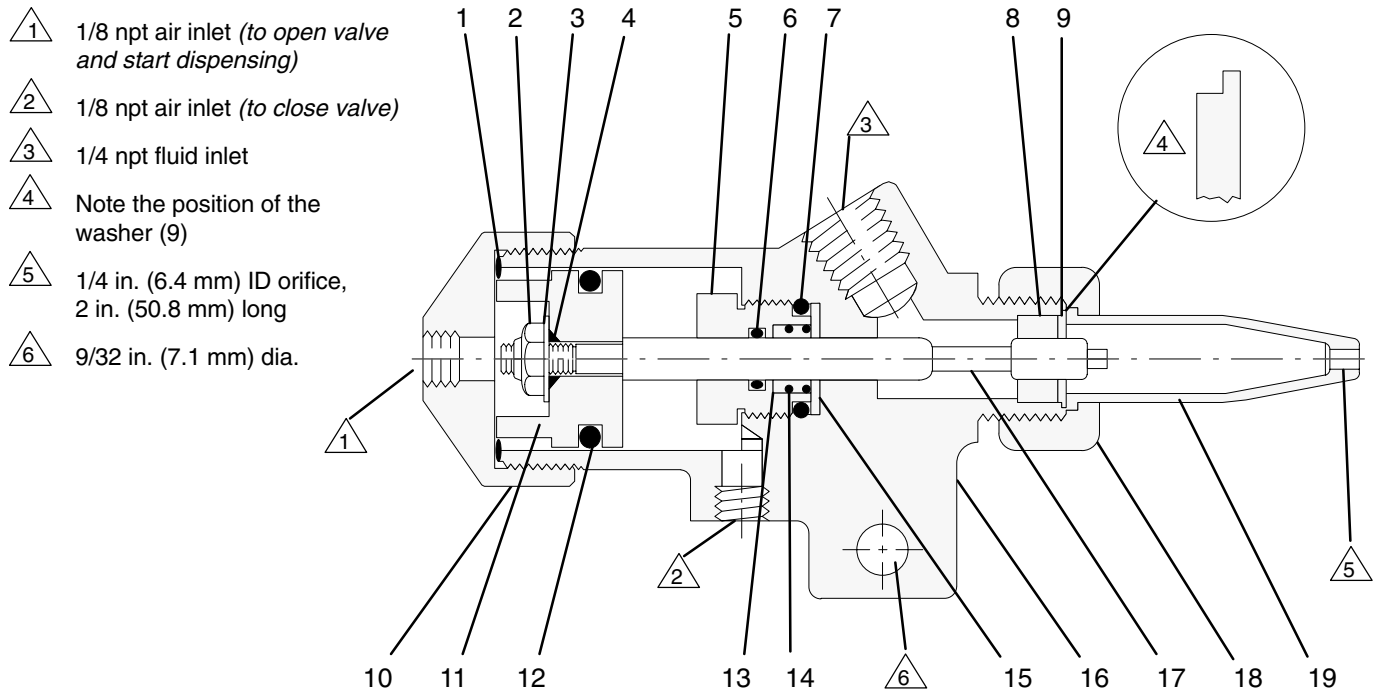

Fig. 1
NOTE: Models C27130 and C27134 are shown in Fig. 1. The service procedure is basically the same for all flow gun models, except where differences are noted.
4. While holding the gun body (16) stationary, remove the following parts from the gun body. See Fig. 1.
- a. Tap the seal (8) into place in the gun body (16) lightly with a soft rod or dowel. See Fig. 1.
- b. Install the o-ring (6) in the groove inside the packing nut (5).
- c. Put the o-rings (14) on the seals (13). Insert the seals into the recessed hole in the packing nut (5).
- d. Insert the packing washer (15) in the gun.
- e. Install o-ring (7) in the groove at the end of packing nut (5).
- f. Using a deep well socket wrench, install the packing nut (5) in the gun.